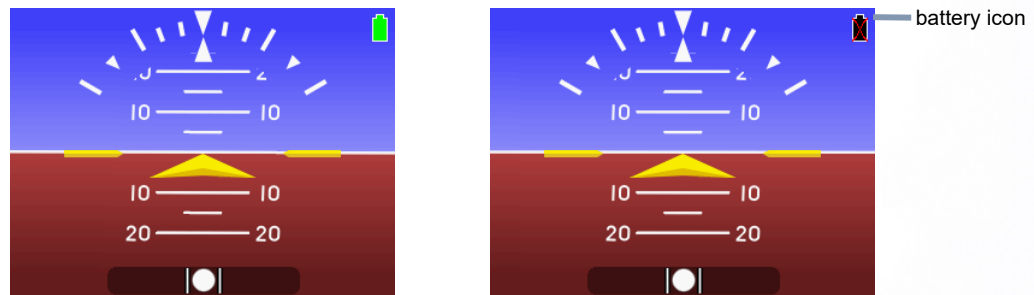

Figure 4.25
If aircraft power to the unit is lost in flight, the unit will immediately begin operating on internal battery power without interruption or pilot intervention. (Unless no airspeed is present – see 4.4.2) This is indicated by a green battery icon displayed in the top right of the attitude display. (Figure 4.25)
When the battery capacity approaches zero during extended use, the battery icon will change to a black battery icon with a red X on it. This indicates that there is less than 20% of battery capacity left and possibly as little as ten (10) minutes of backup power available. (Figure 4.25)